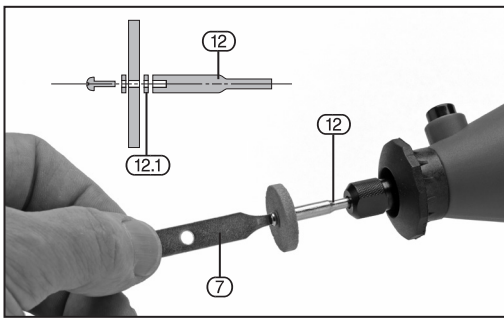

FIG. 4
6.6 FITTING A CUTTING/SANDING DISC – FIG.4
- With the disc holder (12) in the chuck, remove the screw using the plain slot screwdriver (7) (incorporated in the spanner handle tip).